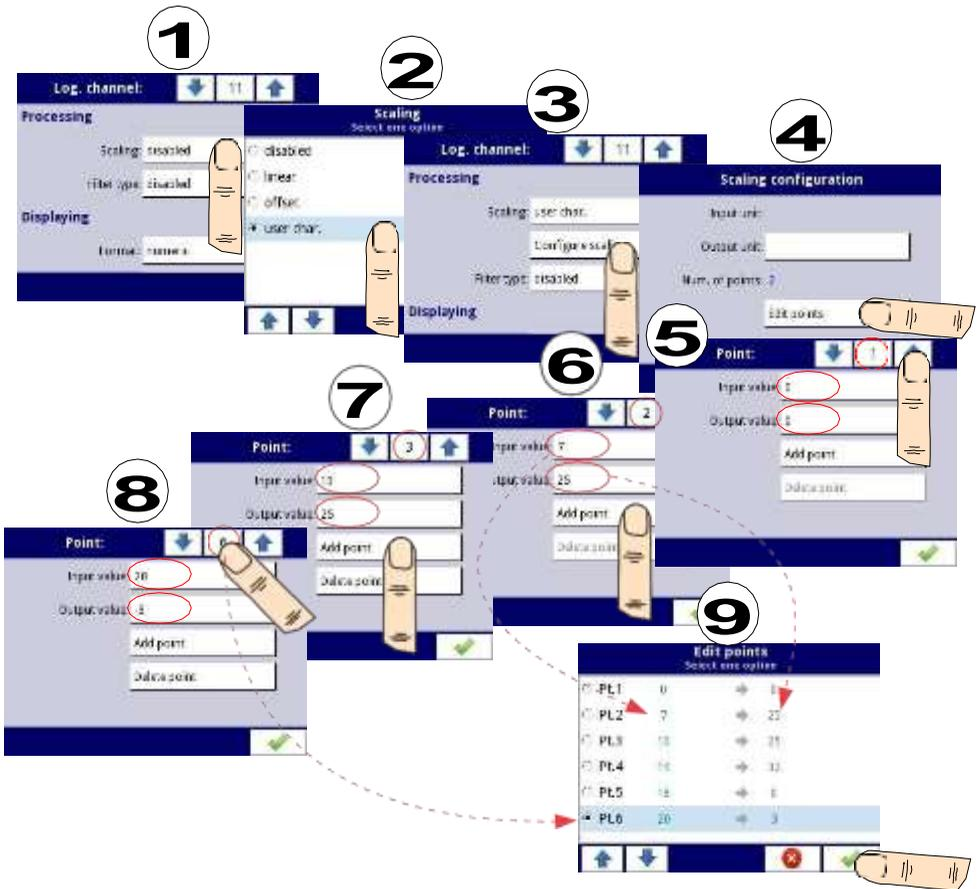

Fig. 7.40. Configuring the user characteristic
1. Press the button next to the **Scaling** label and select the **user characteristic** option (point **(1)** and **(2)** in **Fig. 7.40**).
2. Press the **Configure scaling** button and enter the **Scaling configuration** menu (point **(3)** in **Fig. 7.40**).
4. Press the **Edit points** button (point **(4)** in **Fig. 7.40**) and go to the **Edit points** menu.
For **Point 1** set input and output value (point (5) in Fig. 7.40).
5. Switch to **Point 2** by using the arrow keys and also set the value of input and output there (point (6) in Fig. 7.40).
8. At the end we check all the points defined by clicking the middle button between the arrows in the upper right corner of the screen (point (8) and (9) in Fig. 7.40).